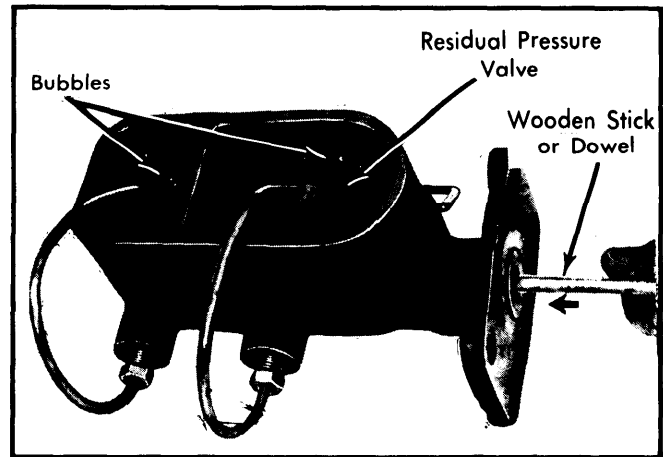

Fig. 1 Bleeding Master Cylinder With Bleeding Tubes Installed
2) Place master cylinder level in a vise. Attach bleeding tubes to cylinder. Fill reservoirs with fluid so that ends of tubes are covered (see Fig. 1). Tubes attached to disc brake outlets must have residual pressure valves installed over ends. This will keep tubes from siphoning.